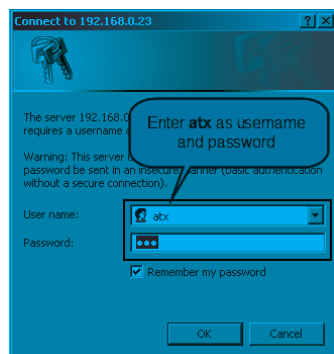

Figure 12-10: Login
5. Wait an additional 90 seconds, reopen the web browser and enter **http://192.168.0.23/site** in the address field. When the login screen appears, enter **atx** for both the Username and Password, see Figure 12-10. The 'DVIS Encoder Settings' page appears.